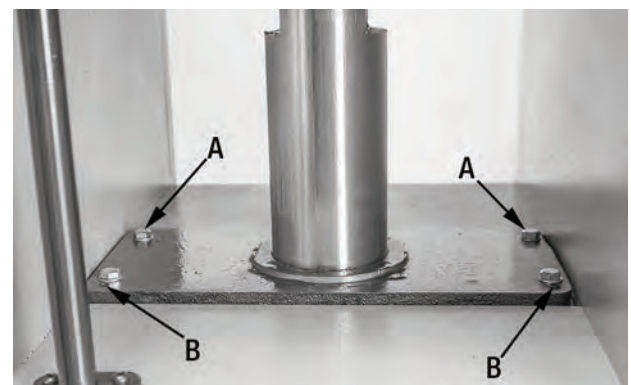

FIGURE 21
1. The Planer table assembly is attached to the machine with four hex. bolts (A) Fig.21. Loosen the four hex. bolts.
2. Beside each hex. bolt is an adjustment set screw. Rotate the two adjustment set screws (B) clockwise using a hex. key on the side of the table that needs to be raised.